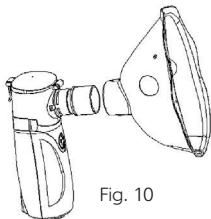

Fig. 10
- Connect mask connector to the medicine tank opening, then connect mask to the mask connector. (Refer to Fig. 10, 11)